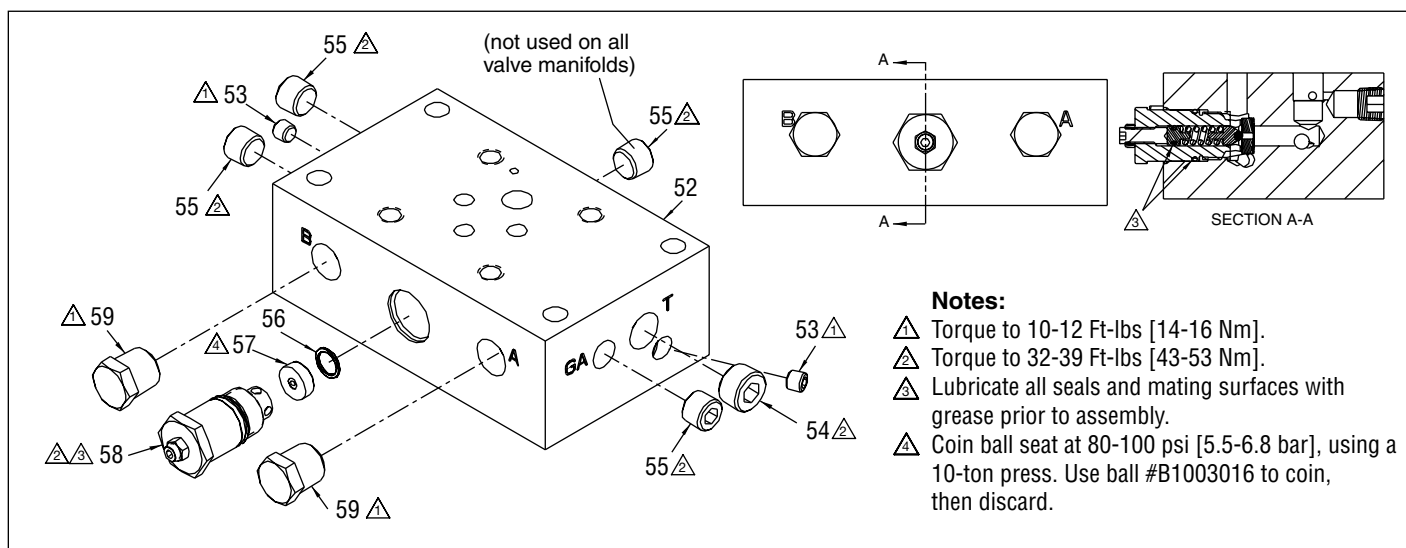
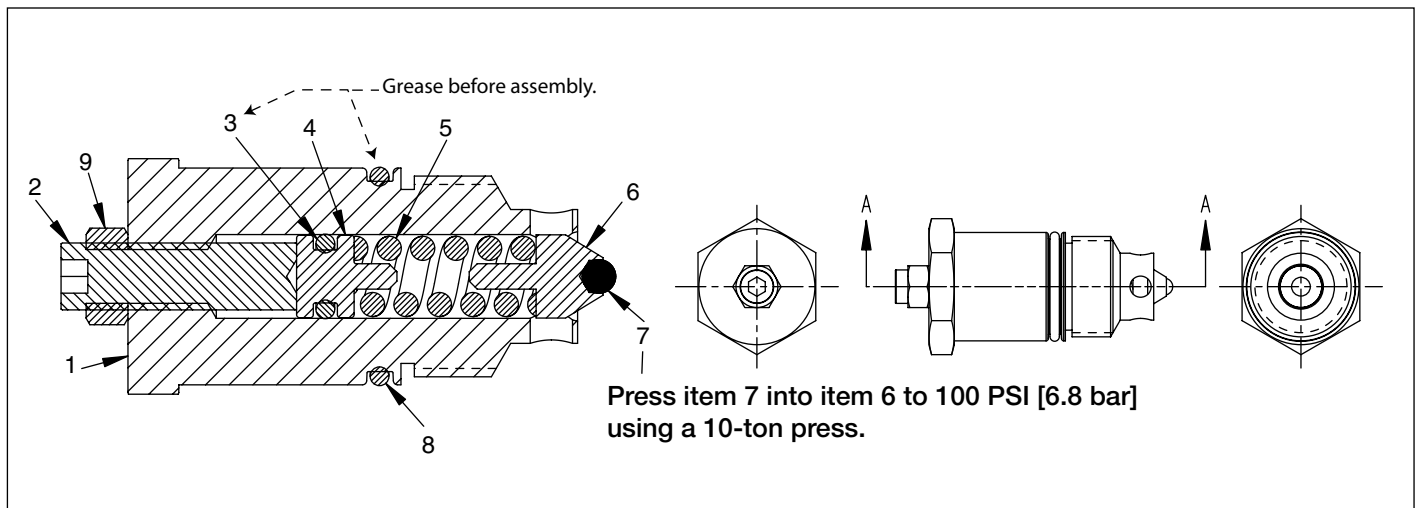

Figure 4, DC6177950SR, Manifold Assembly
Figure 5, DC5139900SR, User Adjustable Relief Valve Assembly
Repair Parts List for Figure 4
Repair Parts List for Figure 5
★ Items included in Repair Kit DC5139900SR. ▲ Not Shown - See Figure 4, Items 56 and 57.
1. Inability to obtain any pressure may be the result of a damaged connector seal on the pump (item 9B, figure 1), failed relief valve components (items 6, 7, figure 5), a damaged pilot-operated check valve (item 5, figure 1) or a damaged directional control valve (item 4, figure 1). These problems are usually a symptom of contaminated hydraulic oil. The system should be drained and refilled with fresh ENERPAC hydraulic oil.
3. Leakage observed on the external surfaces around the relief valve body (item 1, figure 5) is an indication that the o-ring (item 8, figure 5) needs to be replaced.
1. Loosen lock nut (item 9, figure 5) and unscrew the set screw (item 2).
2. Using a 7/8" socket, loosen and remove the relief valve assembly (item 58, figure 4) from the body.
3. Remove the seat (item 57) from the body.
4. Inspect the seat (item 57) for damage, such as nicks or dents on the sharp edge of the internal diameter. Replace if necessary.
5. Inspect the o-ring (item 8, figure 5) for damage and replace if necessary.
6. Inspect the ball (item 7) and guide (item 6). Replace if necessary.
7. Remove the pipe plugs (items 53, 54, 55, figure 4) and clean the body. Inspect body for damages.
1. Apply Teflon tape to threads. Install new pipe plugs (item 53, figure 4) and torque to 10-12 ft-lbs [14-16 Nm]. Install pipe plugs (items 54, 55) and torque to 32-39 ft-lbs [43-52 Nm].
2. Install copper gasket (item 56) onto seat (item 57), with round edges facing away from the seat.
4. Grease o-ring (item 8, figure 5) on relief valve assembly (item 58, figure 4) and insert the assembly into cavity in the valve body.
5. Torque relief valve assembly (item 58) to 32-39 ft-lbs [43-53 Nm].